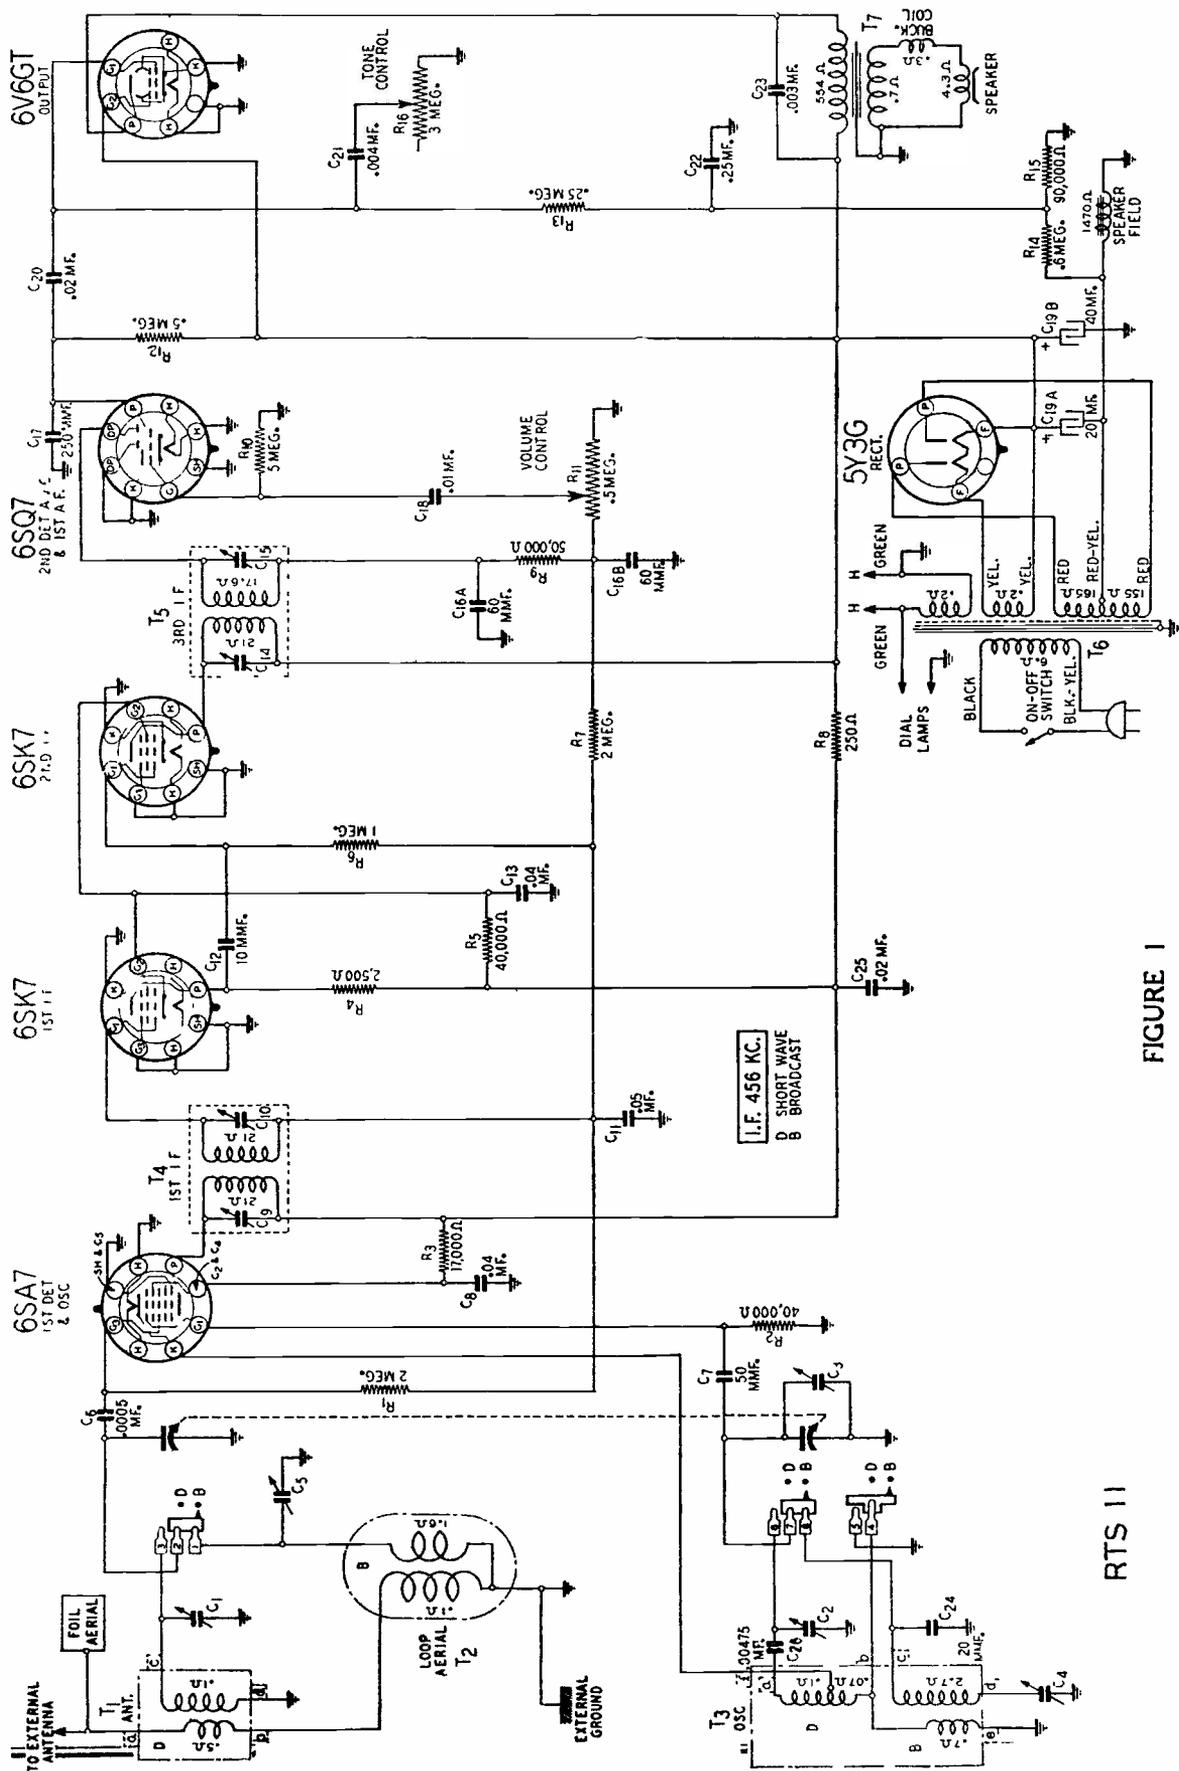

FIGURE 1
The output of this filter connects also to the input of another filter made up of a 1500 ohm resistor and two 40 mfd condensers. This compares quite closely to the filter of Figure 1 and its output connects to the plate and screen grid circuits of the other tubes, including the screen grid of the driver tube.
2. Referring to Figure 1, what conclusion can be drawn if "noise" in the speaker does not decrease when the antenna and ground terminals are shorted?
4. What would happen to the grid bias on the 6V6 stage of Figure 1 if resistor R_{14} is "open"?
5. What quick test can be made to determine if bypass condenser C_{11} of Figure 1 is open?
8. What undesirable condition is likely to exist if screen bypass condenser C_{13} in the receiver of Figure 1 becomes "open"?
9. Referring to Figure 1, what would be the probable result on the "sound" if the 40 mfd filter condenser, part C_{19B} , reduces in capacitance?
As a basis for our explanations of the causes and cures for this type of complaint, Figure 1 of this Lesson shows the circuits of an 8 tube, 3 band superheterodyne Radio Receiver
Going further, Figure 2 shows the circuits of an 11 tube combination which includes Frequency Modulation reception as well as 2 bands of a-m radio and provisions for a Phonograph. Unlike the combination of Figure 1, Figure 2 does not include the Phonograph turn table and pick up but does have a "Phono Jack" and include a "Phono" position on the band switch.
Looking at Figure 1 you will find the common type of a-c receiver circuit using a full wave 5Z4 rectifier tube and a dynamic speaker, the 1000 ohm field of which is used as a filter choke.
Coupling condensers are quite common offenders in this respect and, in the circuits of Figure 1, you will find eight of them. Two in the oscillator coil assembly, one in the 6SA7 oscillator grid and five between the detector and speaker. Of these, there is one between the Radio-Phono switch arm and volume control, one between the moving contact of the volume control and the triode grid of the upper 6SQ7 and one between the triode grid of the lower 6SQ7 and the junction between the grid resistors of the output stage.
When the intermittent does appear there are usually certain indications which permit quick tests. For the circuits of Figure 1, the cause of a drop in volume can be localized in
With a combination like that of Figure 1, the audio amplifier can be tested separately by playing a record and comparing the signals with those of Radio Programs. When the trouble is present for both, it is located in the audio amplifier but, if it occurs only for Radio signals, it must be located between the detector and antenna.